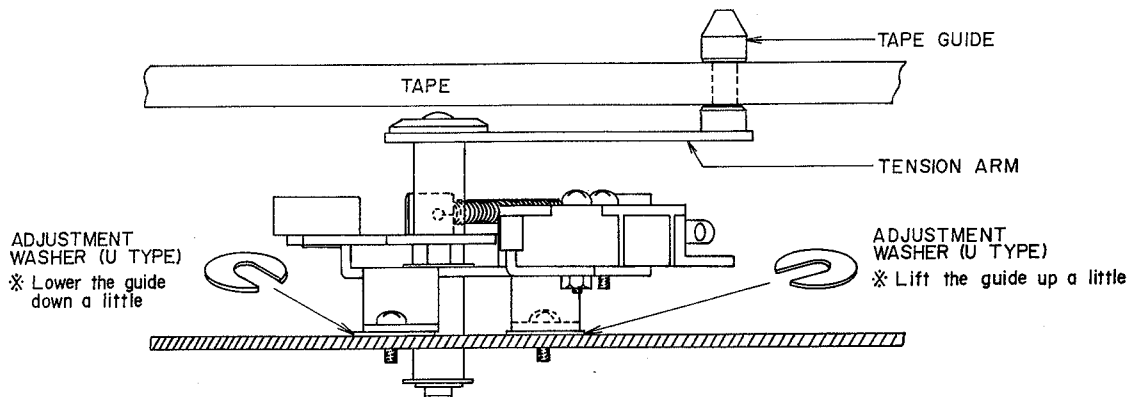

Fig. 11
2) Right tape guide (Refer to Fig. 11)
Adjust the right tape guide height by inserting U-washers between the mechanical frame and the tension arm base as shown in Fig. 11.